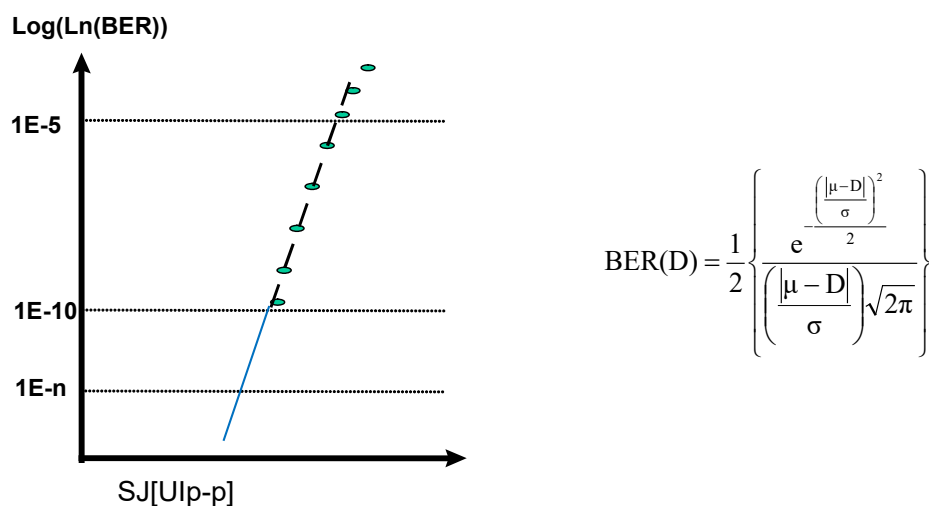

Figure 4.7.3-1 Noise Distribution Estimate and BER Estimate Calculation
The distribution parameters σ and μ can be determined by measuring the correlation with jitter modulation amplitude (SJ) for bitter error rate over a particular range as shown in Figure 4.7.3-1. Jitter modulation amplitude estimate curves for jitter modulation frequencies can be calculated for any particular error rate using the equation in the distribution Figure 4.7.3-1.
Intermediate results as shown in Figure 4.7.3-2 can be obtained for settings as shown in Table 4.6.2-1.